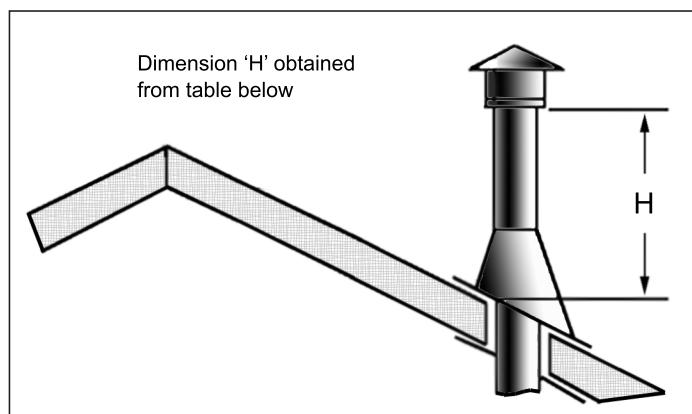

Figure 63: Height of Vertical Vent Termination; Reference Table 7
Step 8. Continue to add pipe sections until the height of the vent cap meets the minimum code requirements. Refer to Figure 63 and Table 7. Note that for steep roof pitches, the vent height must be increased. In high wind conditions, nearby trees, adjoining roof lines, steep pitched roofs, and other similar factors can result in poor draft, or down drafting. In these cases, increasing the vent height may solve the problem.
Table 7: Minimum 'H' for Figure 63.